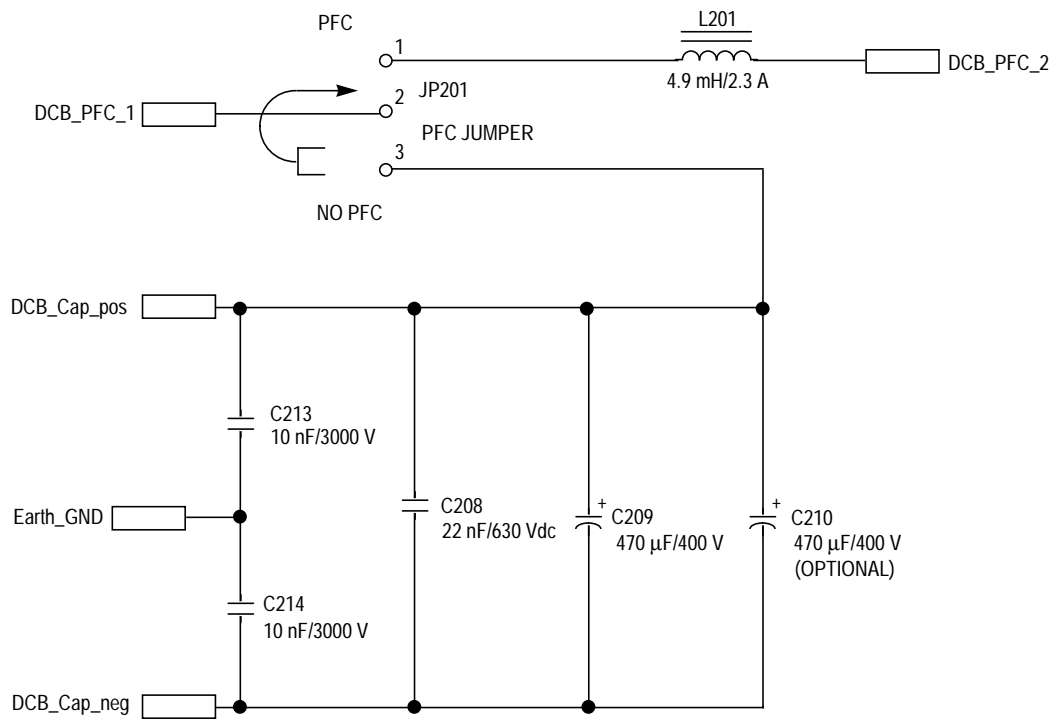

Figure 1-4. PFC Jumper
6. Optional PFC — The HV ac power stage is shipped with power factor correction (PFC) disabled. If power factor correction is desired, it is necessary to remove and resolder power jumper JP201 from the no PFC position to the PFC position. This jumper is found on the left side of the top board between the dc bus capacitor and PFC inductor. Circuit connections are illustrated in Figure 1-4. For first time setups, operation without power factor correction is recommended.